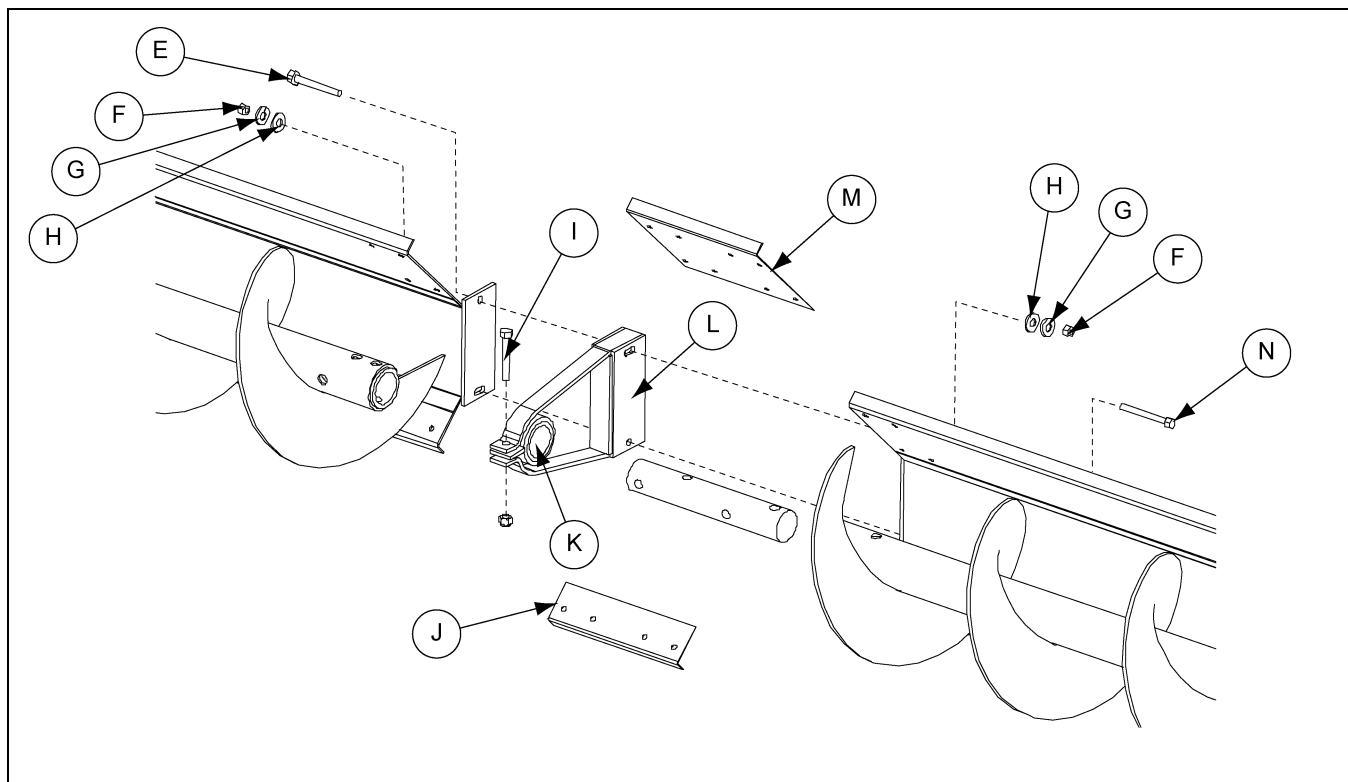

Figure 4I *Bearing Stand Assembly*
3. Bolt the bearing holders (K) to the inside of the bearing stands (L). Use a 7/16" x 1-1/2" long hex head cap screw and nylon lock nut to secure the bearing holder (K) to the bearing stand (L). *(See Figure 4I on Page 22.)*
4. Place the bearing stand (L) between the first sweep back shield section and the next section to be used. Bolt the sweep back shield sections to the bearing stand (L) by using two (2) 3/8" x 3" long hex head cap screw (N), two (2) flat washers, two (2) lock washers and two (2) nuts. *(See Figure 4I on Page 22.)*